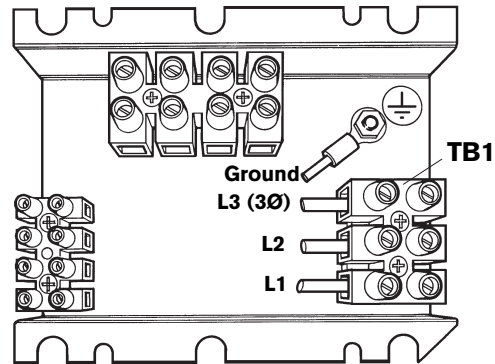
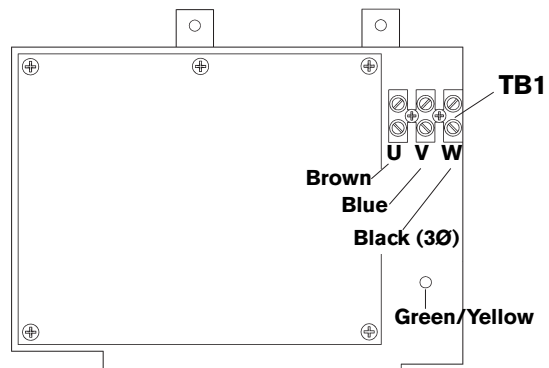

Figure 7A - TB1 Location, 208/240/480V or 200/230/400V Power Supplies
Figure 7B - TB1 Location, 400V CE Power Supply
- Slide the rear panel back over the power cord to gain access to TB1 - Fig. 7A for 208/240/480V and 200/230/400V power supplies or Fig. 7B for 400V CE power supply.
14. Attach the power cord wires to TB1 (Fig. 7A or Fig. 7B).